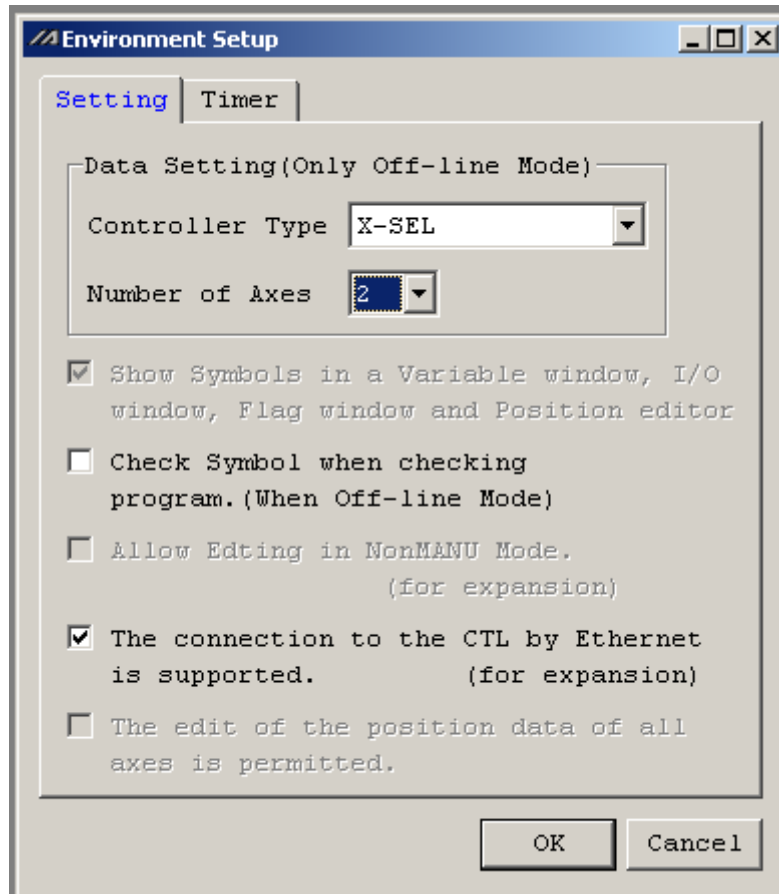

Figure 5
- (3) Ethernet connection is enabled only when the checkbox “The connection to the CTL by Ethernet is supported (for expansion)” (see Fig. 5), as provided on the “Setting” tab accessed by selecting “Tools” → “Environment Setup” from the menu, is selected (PC software V2.1.0.4 or later).